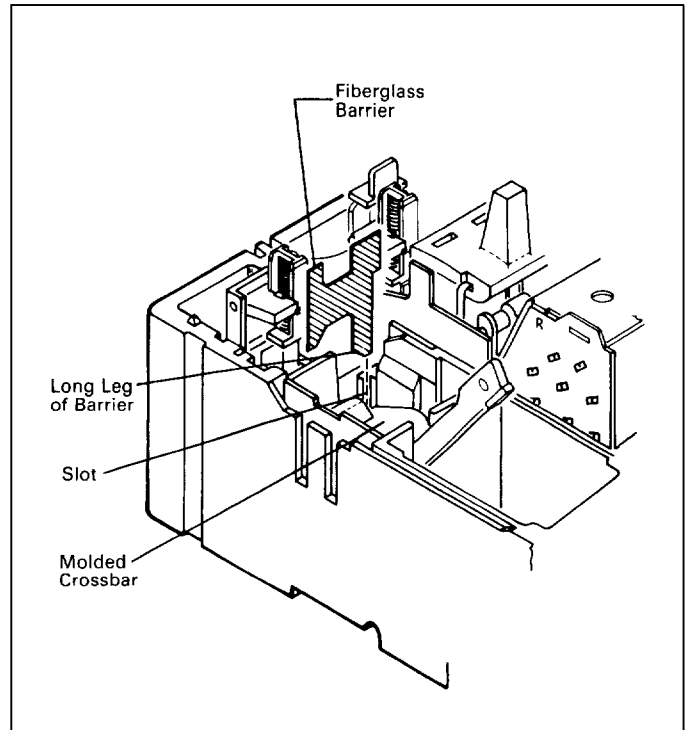

Fig. 2-4. Fiberglass Barrier Installation Position (Right Accessory Mounting Cavity Shown)
- 2-7. Slide fiberglass barrier into position between molded crossbar (white) and trip bar (red). Long leg of barrier must go into angle in base molding (see Fig. 2-4).